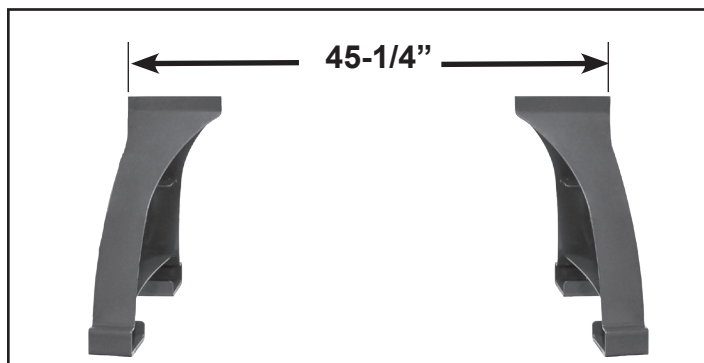

FIG. 4
1. Position the two Legs (H, F1) approximately 45-1/4" apart measuring from the outside edges. Be sure that the shelf brackets on the legs are facing inward, towards each other. Figure 4.